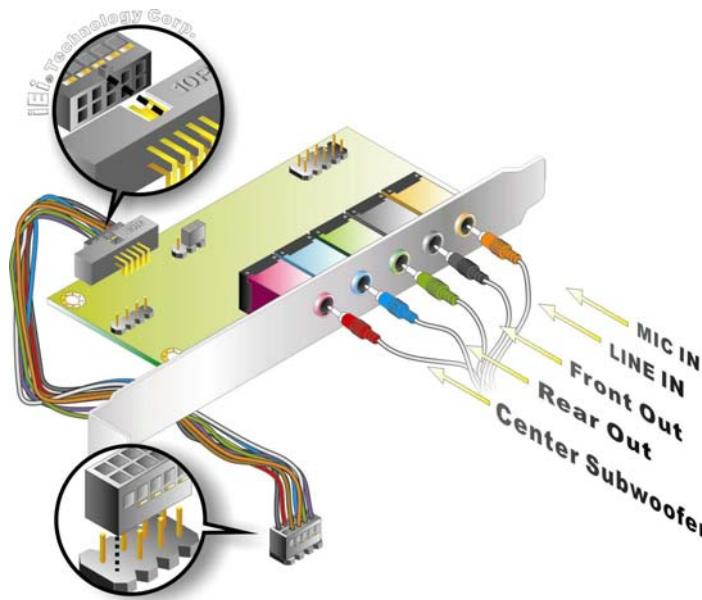

Figure 4-11: 7.1 Channel Audio Kit
**Step 3: Align pin 1.** Align pin 1 on the on-board connector with pin 1 on the audio kit cable connector. Pin 1 on the audio kit cable connector is indicated with a white dot. See Figure 4-11.